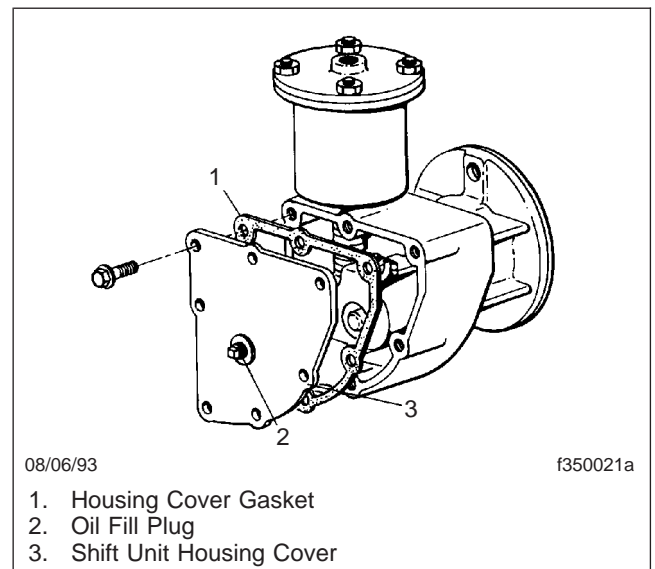

Fig. 10, Two-Speed-Axle Shift Unit
1. Remove the shift unit housing cover. See Fig. 10. Drain and discard the old lubricant. Discard the housing cover gasket.